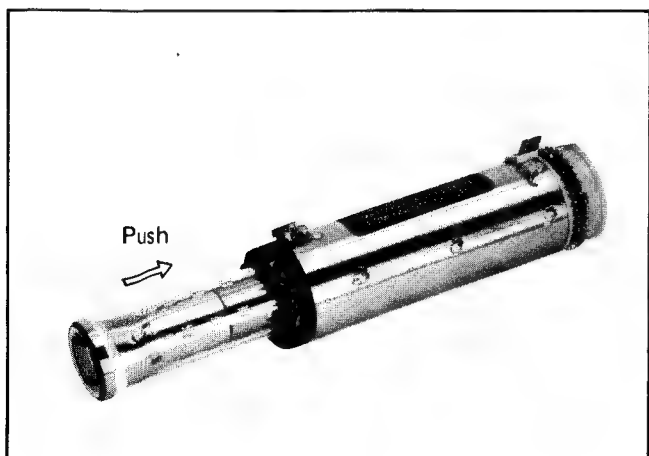

Fig. 11.
- 3-13. Push the pick-up tube in the D.Y assembly as far as it will go... using lens cleaning tissue paper to keep the face plate spotless (Fig. 11).